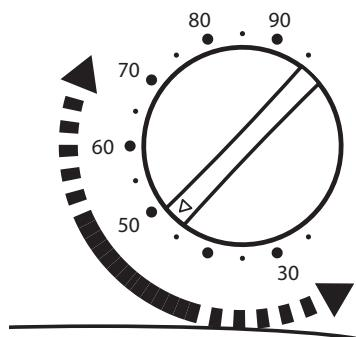

FIGURE 13: Dial
2. Turn the dial and point it to the known humidity in the area. "FIGURE 13: Dial".